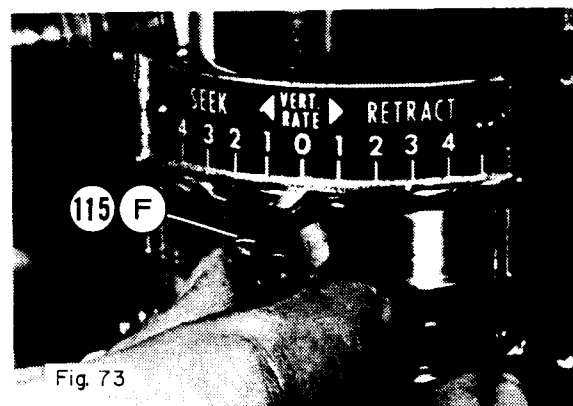

Fig. 73
4. Move the Vertical Rate Control Lever (F115) all the way to the left "Seek" and then back all the way to the right "Retract." (Fig. 73) The Safety Air Release Rocker Plate (85) should get actuated with approximately 0.003 inch to 0.005 inch upward pressure on the stylus or spindle (123). You can check this out with the aid of a dial indicator if necessary.
5. Replace the access plate (21) after making certain that the Safety Air Release is working properly.